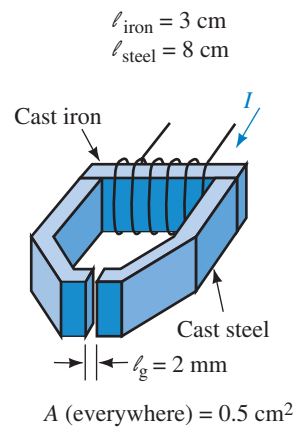

FIGURE 12-51
21. For the circuit of Figure 12-51, $\Phi = 30\ \mu\text{Wb}$ and $N = 2000$ turns. Neglecting fringing, find current I .